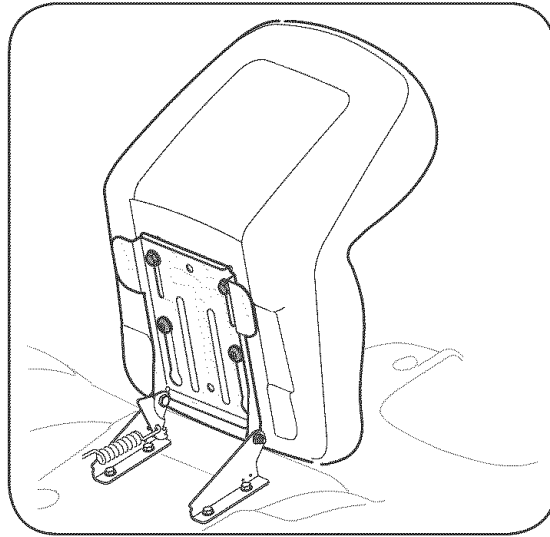
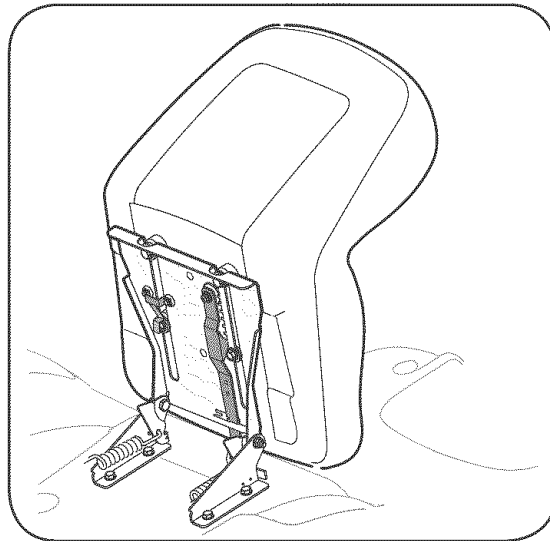
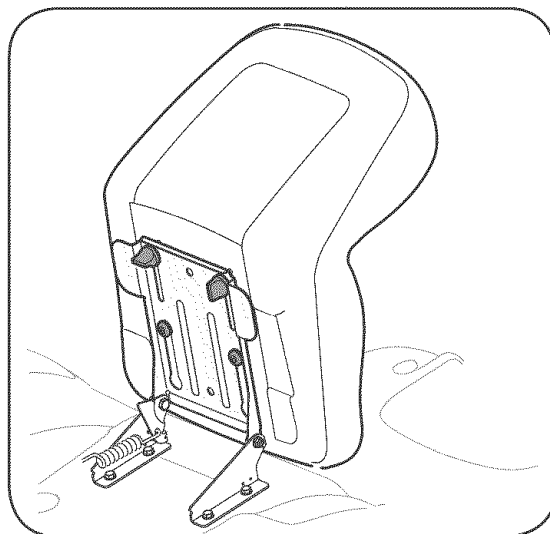

Figure 4
Figure 5
Figure 6
If the seat for your tractor did not come attached, refer to Figure 4, Figure 5, and Figure 6 to identify your tractor's seat style and follow the applicable instructions below to attach it.
1. Position the shoulder screws (found on the base of the seat) inside the slot openings in the seat pivot bracket. Figure 4.
3. Select desired position for the seat, and secure with the two hex screws removed earlier. See Figure 4.
**NOTE:** If your seat was shipped mounted backwards on the seat pivot bracket, pull out the tab found on the seat stop and hold it open while sliding the seat off the seat pivot bracket. See Figure 5.
2. Slide seat in until front seat spacer engages the seat stop. See Figure 5.
1. Position the shoulder screws (found on the base of the seat) inside the slot openings in the seat pivot bracket. Figure 6.
3. Select desired position for the seat, and secure with the two knobs removed earlier. See Figure 6.